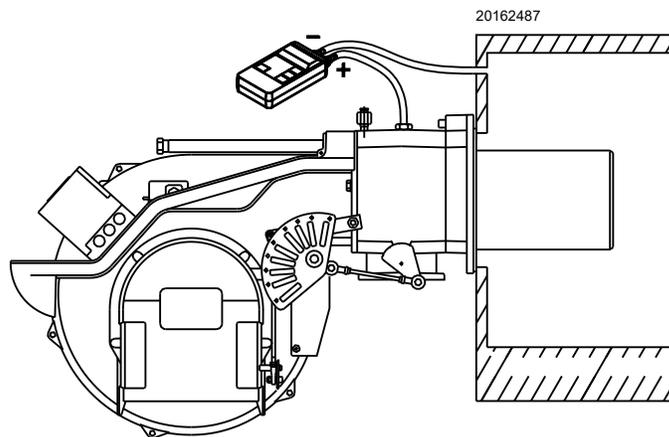

Fig. 34
- Purge the air from the gas line. Fit a manometer (Fig. 34) to the gas pressure test point on the sleeve. The manometer readings are used to calculate the MAX. burner power using the diagram on page 21.